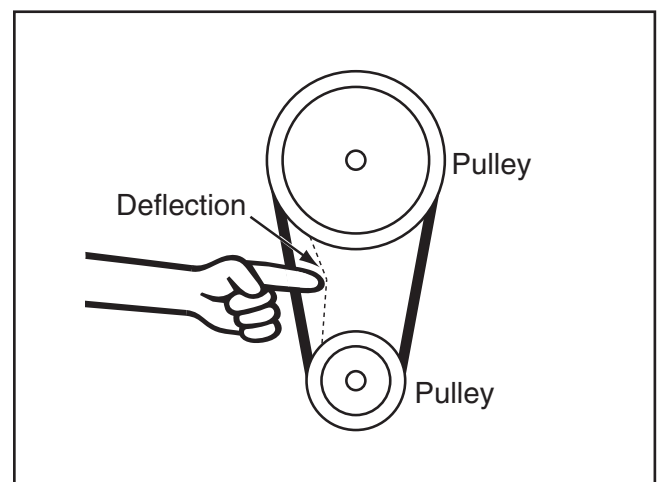

Figure 20. Belt deflection.
5. Move the belt tension lever down, adjusting tension so that when the belt is pressed with moderate force, $\frac{1}{2}$ " of belt deflection is measured as shown in **Figure 20**, then tighten belt tension lever screw.